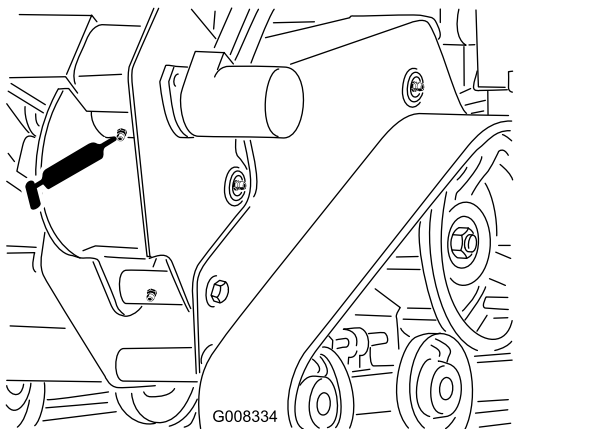

Figure 23
3. Clean the trencher housing grease fitting with a rag and connect a grease gun to it (Figure 23).